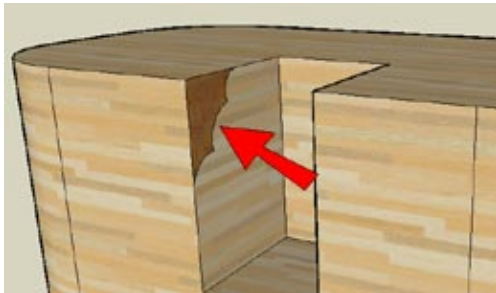

Figure 4-5
3. Draw the Follow Me face on one of the vertical faces of the notch (Figure 4-5).